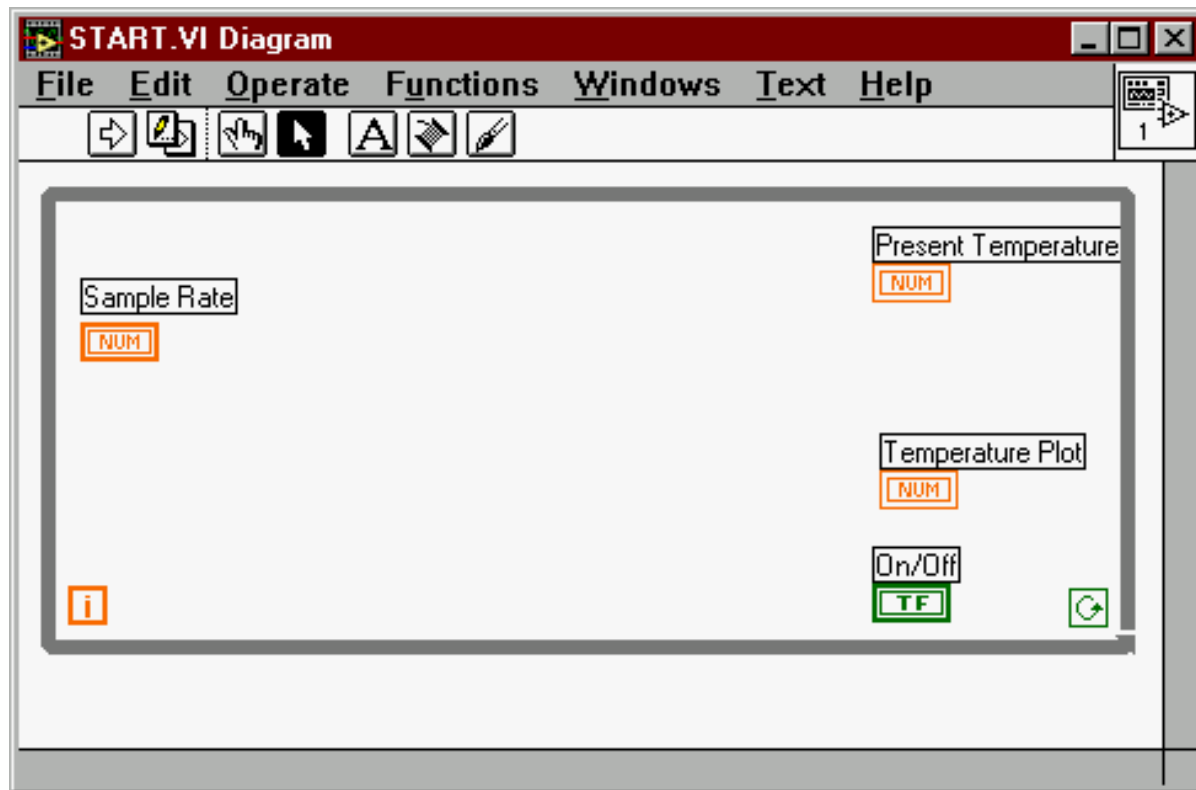

Figure 4 : Adding the While Loop
- The basic program will repeat this operation at a rate determined by our adjustable sample rate knob. For this we will start by selecting a WHILE LOOP using FUNCTIONS/STRUCTSANDCONSTANTS/WHILELOOP. position the loop as shown in Figure 4.